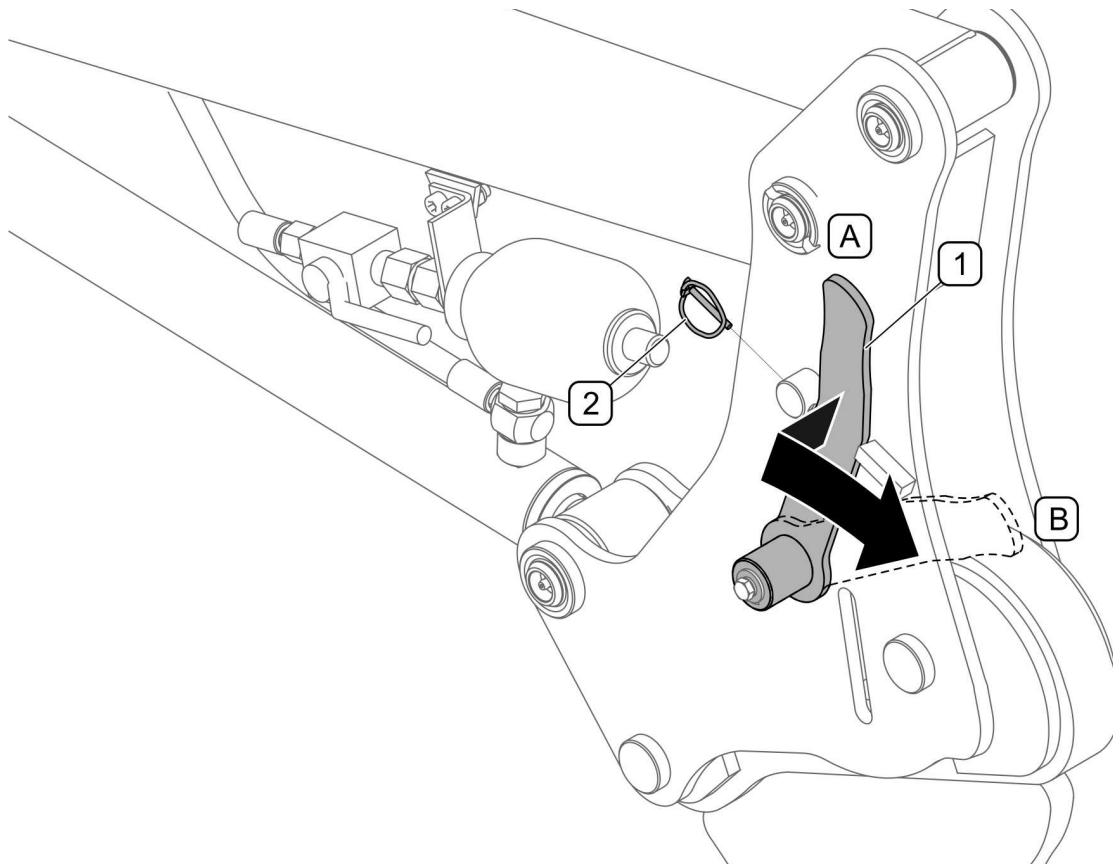

FIGURE 4.26 Disconnecting loader arm from support frame
- take out securing cotter pin (2), (FIGURE 4.26);
- push back lever (1) of quick coupler lock and set it to the rear in position (B) (FIGURE 4.26),